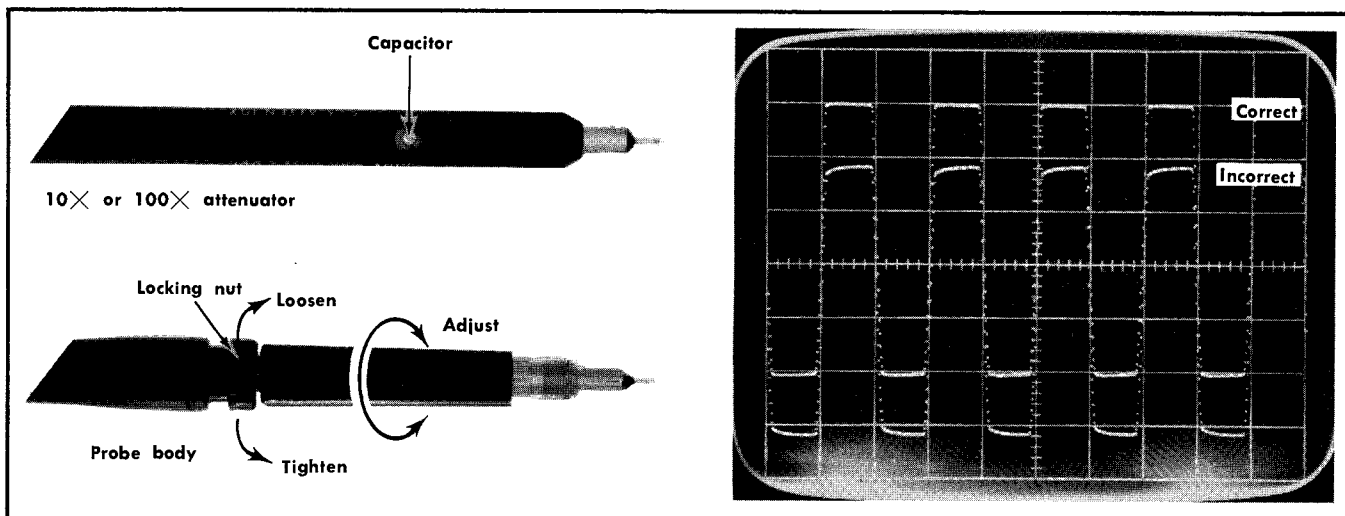

Fig. 5-4. Probe compensation.
d. Check for a level top of the square wave; see Fig. 5-4. To compensate the Probe for a flat top on the square wave display loosen the coupling (locking) nut, and rotate the probe body as necessary. When the correct display is obtained, finger-tighten the locking nut.
g. Check for a level top on the square wave. If not level, compensate the 10X attenuator by carefully setting the capacitor (see Fig. 5-4), for a level top.